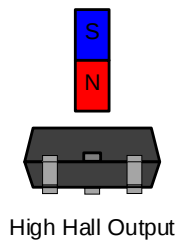

Figure 12: High Hall Output with Approaching North Pole
2. If the Hall sensor output is high when the north pole is close to the Hall sensor's branded side (see Figure 12).